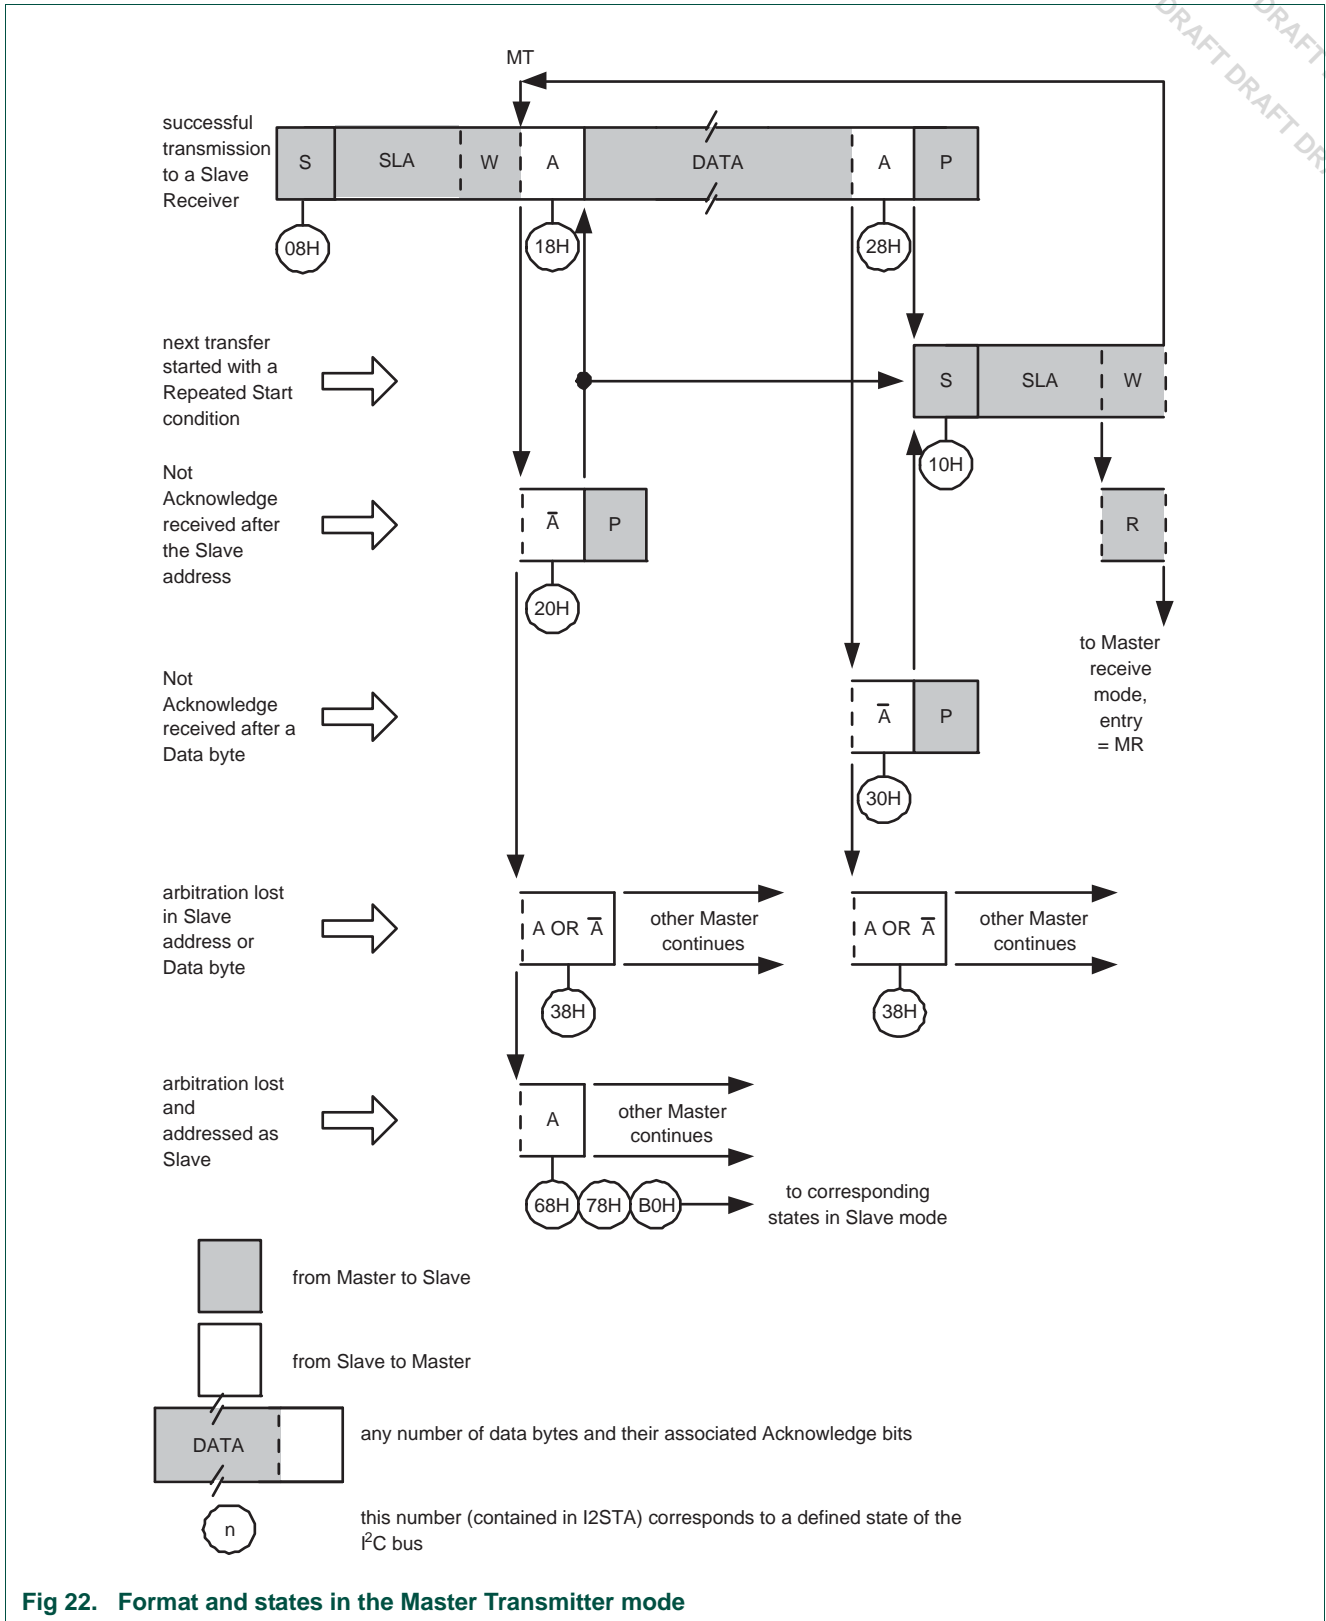
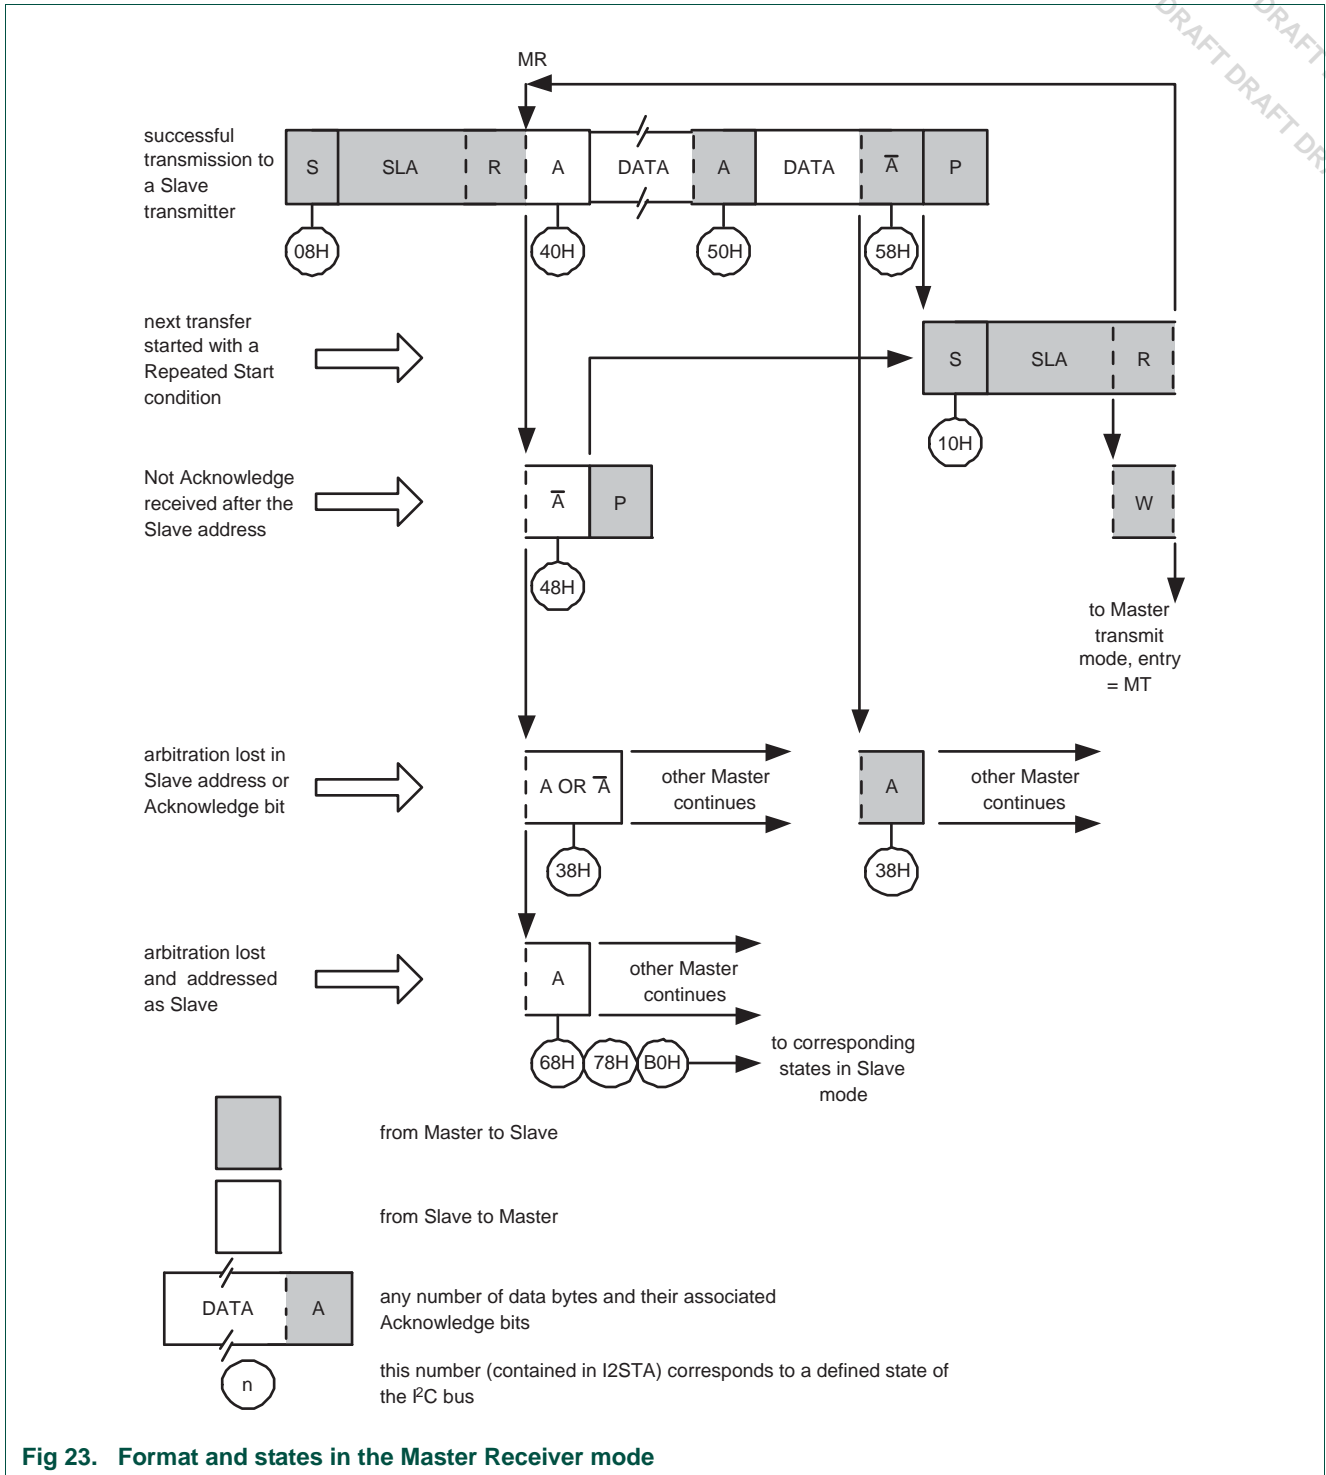
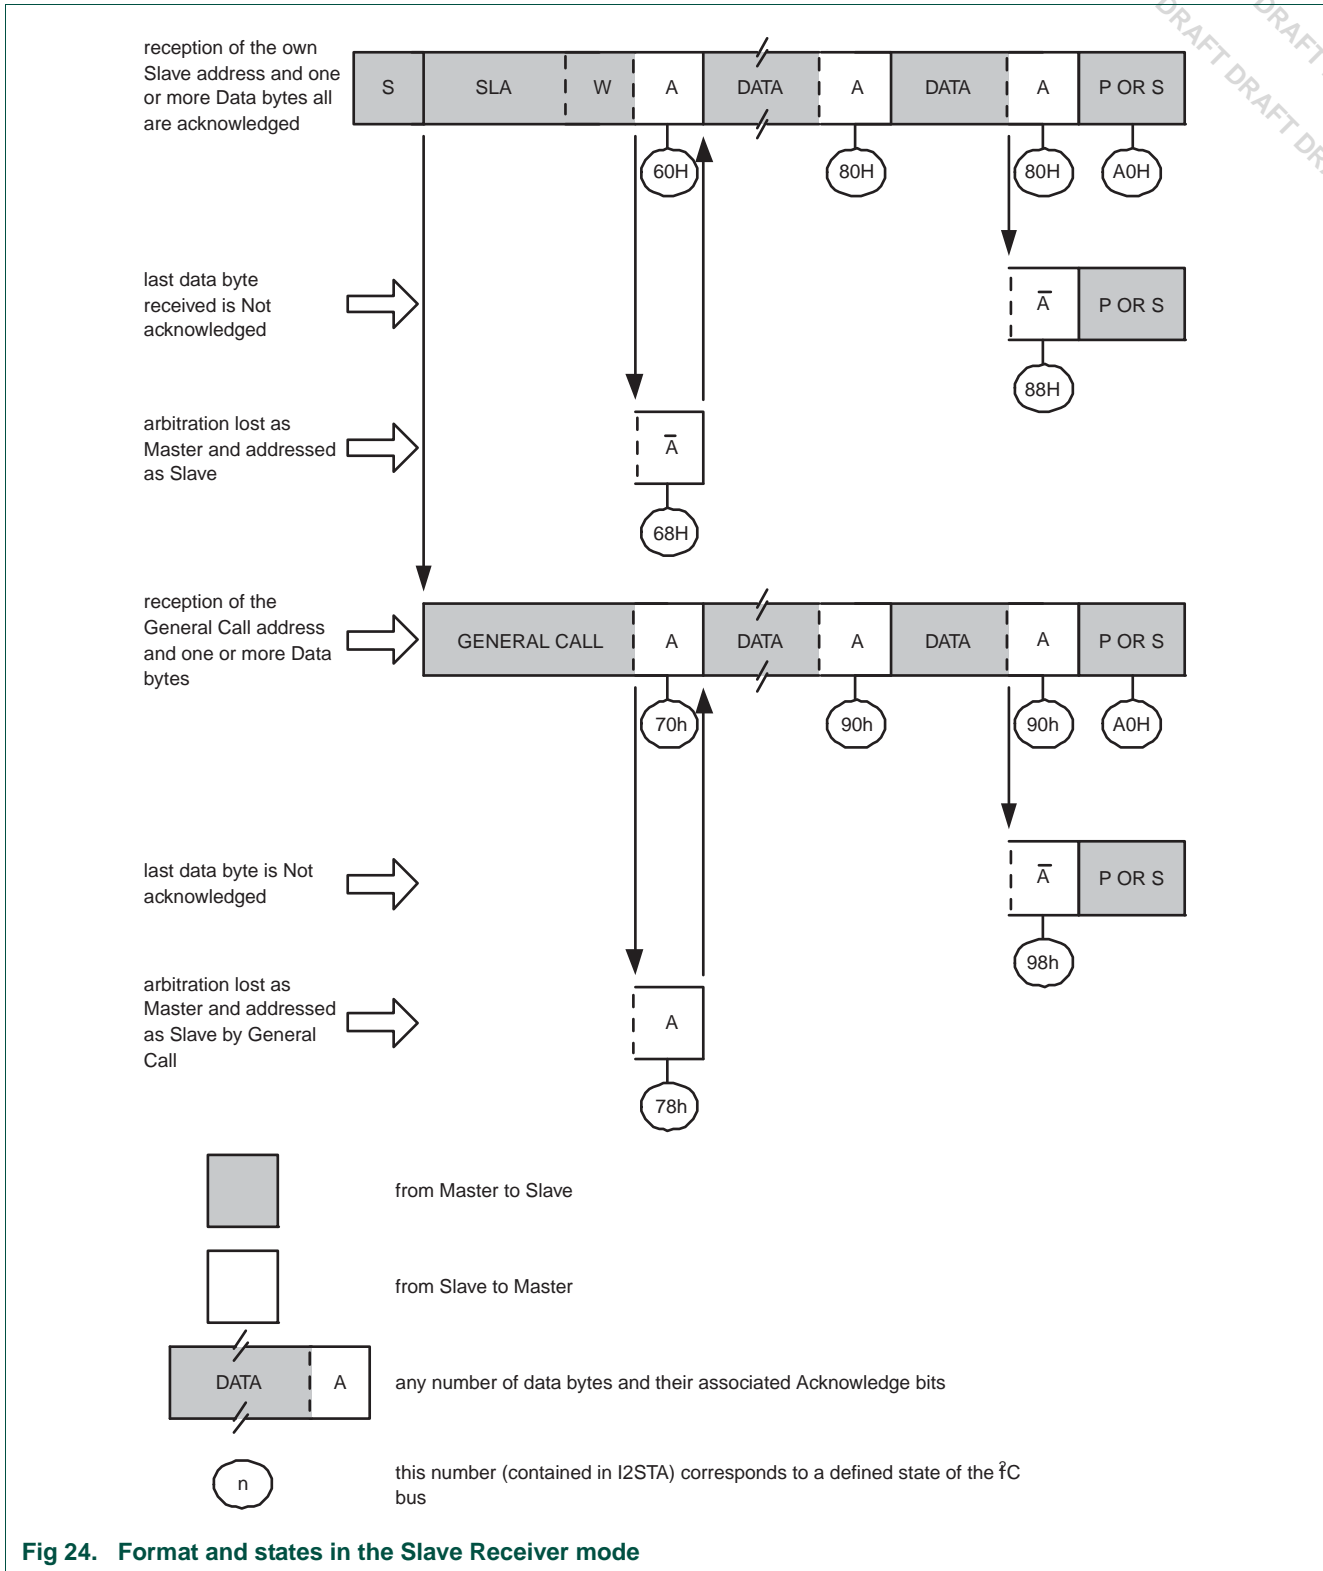
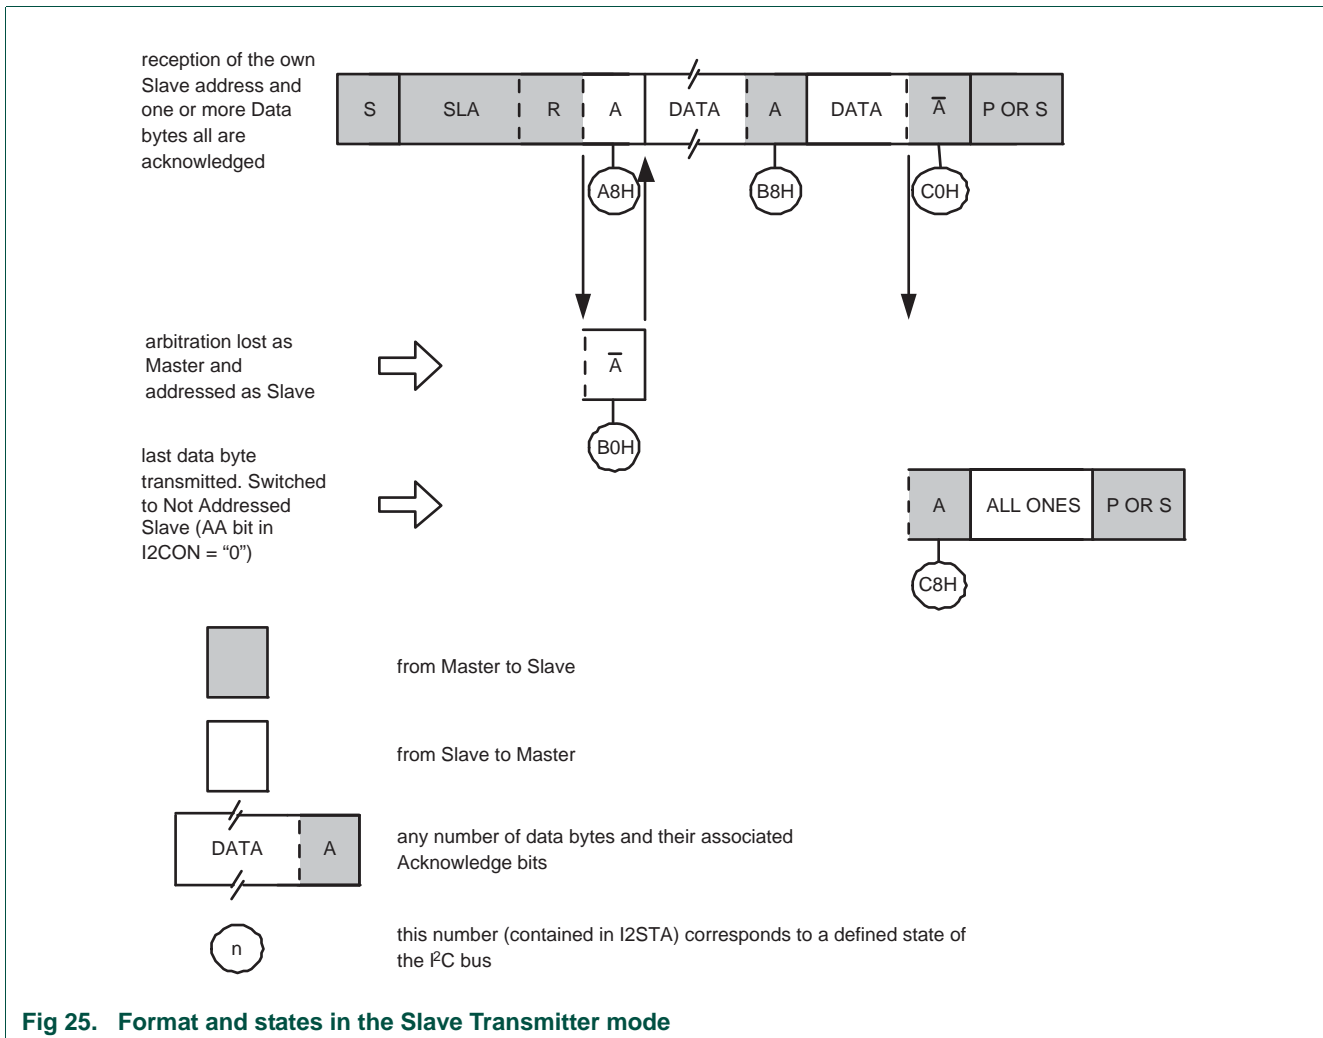

Fig 22. Format and states in the Master Transmitter mode
Fig 23. Format and states in the Master Receiver mode
Fig 24. Format and states in the Slave Receiver mode
Fig 25. Format and states in the Slave Transmitter mode
Data transfers in each mode of operation are shown in Figure 22, Figure 23, Figure 24, Figure 25, and Figure 26. Table 196 lists abbreviations used in these figures when describing the I²C operating modes.
In Figure 22 to Figure 26, circles are used to indicate when the serial interrupt flag is set. The numbers in the circles show the status code held in the STAT register. At these points, a service routine must be executed to continue or complete the serial transfer. These service routines are not critical since the serial transfer is suspended until the serial interrupt flag is cleared by software.
In the master transmitter mode, a number of data bytes are transmitted to a slave receiver (see Figure 22). Before the master transmitter mode can be entered, CON must be initialized as follows:
In the master receiver mode, a number of data bytes are received from a slave transmitter (see Figure 23). The transfer is initialized as in the master transmitter mode. When the START condition has been transmitted, the interrupt service routine must load DAT with the 7-bit slave address and the data direction bit (SLA+R). The SI bit in CON must then be cleared before the serial transfer can continue.
In the slave receiver mode, a number of data bytes are received from a master transmitter (see Figure 24). To initiate the slave receiver mode, CON register, the ADR registers, and the MASK registers must be configured.
In the slave transmitter mode, a number of data bytes are transmitted to a master receiver (see Figure 25). Data transfer is initialized as in the slave receiver mode. When ADR and CON have been initialized, the I²C block waits until it is addressed by its own slave address followed by the data direction bit which must be "1" (R) for the I²C block to operate in the slave transmitter mode. After its own slave address and the R bit have been received, the serial interrupt flag (SI) is set and a valid status code can be read from STAT. This status code is used to vector to a state service routine, and the appropriate action to be taken for each of these status codes is detailed in Table 202. The slave transmitter mode may also be entered if arbitration is lost while the I²C block is in the master mode (see state 0xB0).